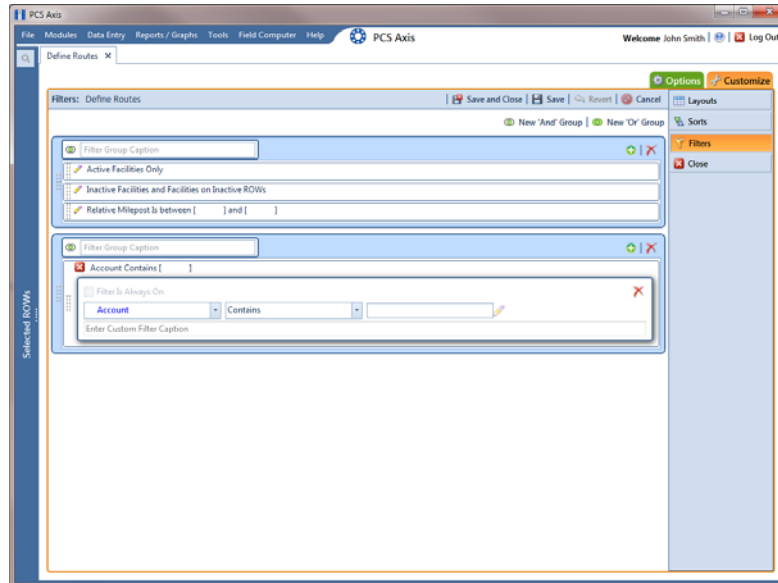

Figure 7-49. Filters
- 4 Click  **New 'And' Group** to open a filter properties group box (Figure 7-49).